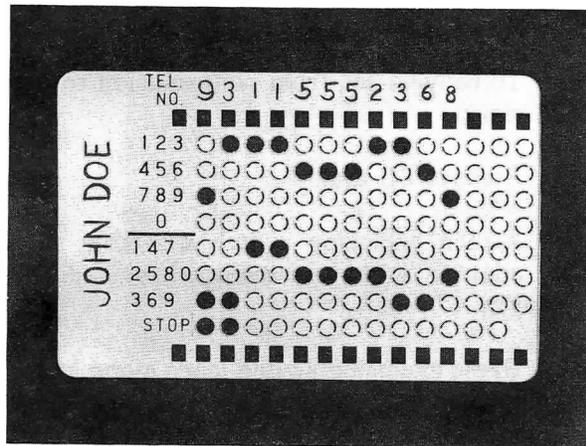

Fig. 8 - Card Coded for Access Code (9), Stop, Area Code (311), and 7-Digit Telephone Number
5.03 On a PBX extension where a code (such as 9) is required to reach a central office line, prepare a card for dialing an access code (Fig. 8) as follows: